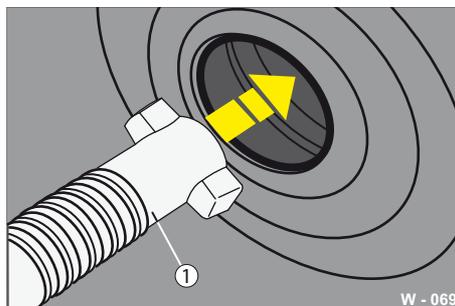

Fig. 67 "Keyhole" bore hole
- ▶ Insert the release screw (Fig. 67/1) through the bore hole in the cover at the back into the "keyhole" aperture.